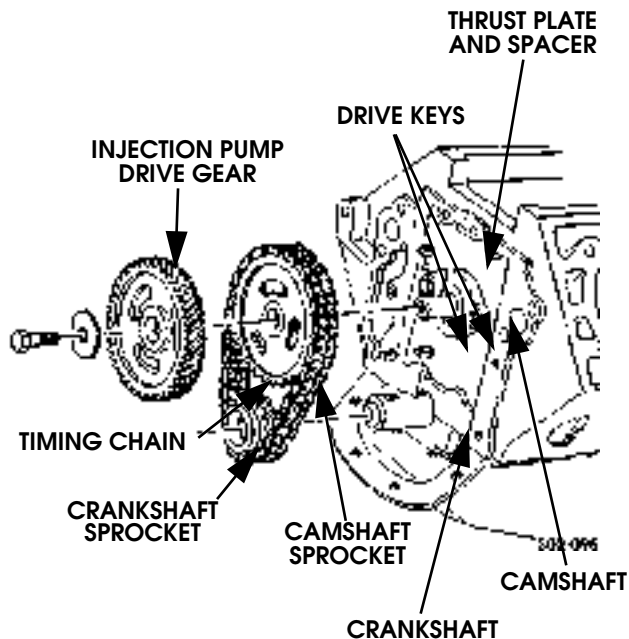

Figure 2-26: Timing Chain, Sprockets, and Drive Gear Installation
4. Assemble and install timing chain and sprockets (Figure 2-26). Check timing mark alignment before proceeding.
5. Install injection pump drive gear on camshaft (Figure 2-26). Timing mark on gear should be facing upward (12 o'clock position). Then install drive gear attaching washer and bolt. Tighten bolt to 55-60 lb-ft (75-81 N•m) torque.